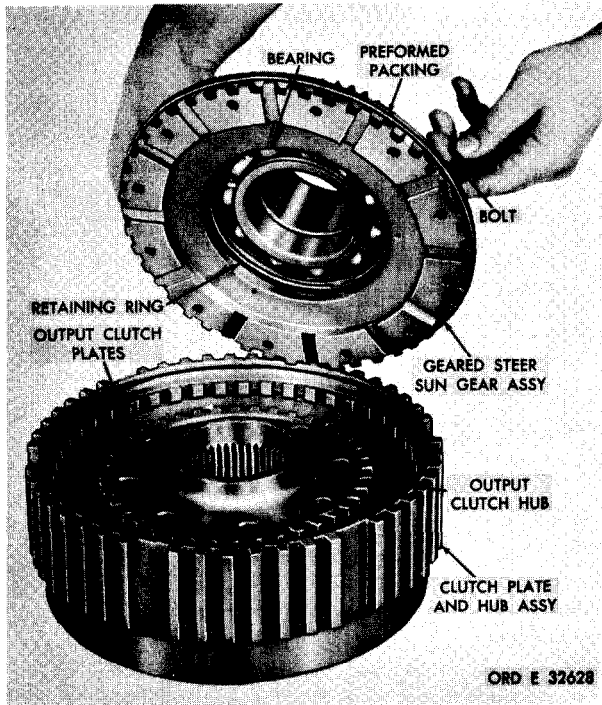

Figure 209. Removing (or installing) geared steer sun gear assembly
d. Using two 5/16-24 bolts, remove the geared steer sun gear assembly from the clutch plate and hub assembly (fig. 209).
e. Remove the preformed packing from geared steer sun gear assembly (fig. 209).
f. Do not remove the bearing and retaining ring from the sun gear assembly unless replacement of the bearing is necessary (fig. 209). If necessary, remove the retaining ring and press out the bearing.
g. Remove the output clutch hub and clutch plates from the clutch plate hub assembly (fig. 209).
f. Install the output clutch hub (fig. 209).
g. Install seven internal- and seven external-splined output clutch plates alternately, beginning with an internal-splined clutch plate (fig. 209).
h. If the bearing was removed from the geared steer sun gear, press in a new bearing until firmly seated. Install the retaining ring (fig. 209).
i. Install the preformed packing on the geared steer sun gear assembly (fig. 209).
j. Using two 5/16-24-inch bolts, install the geared steer sun gear assembly (fig. 209).